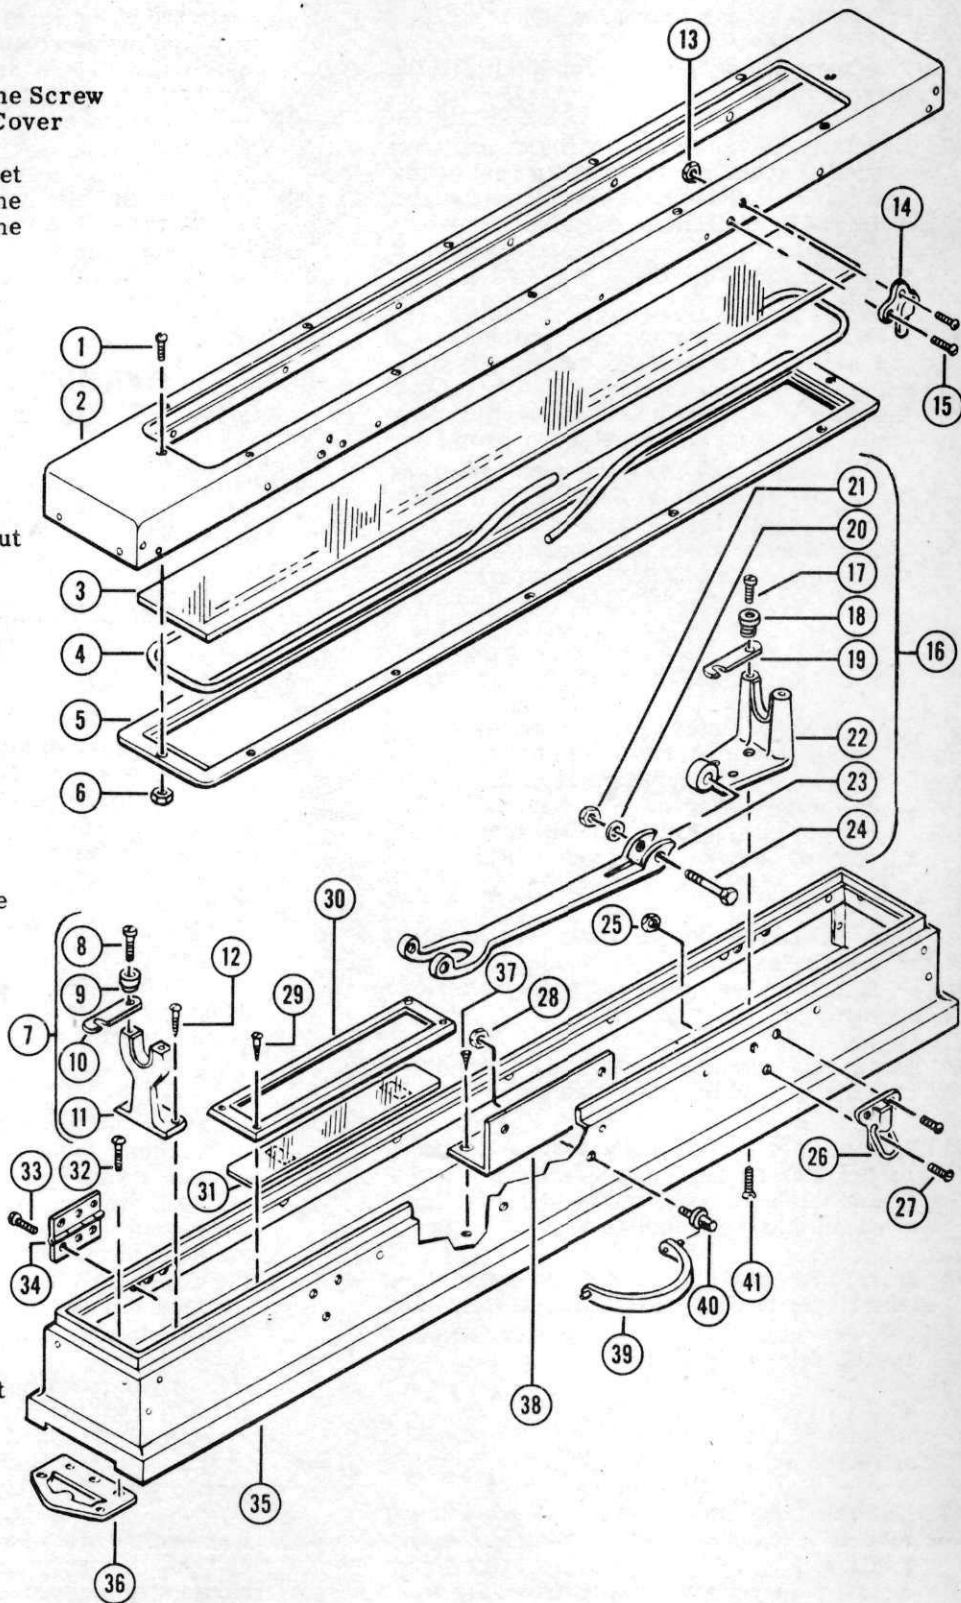

Figure 21
50. To remove the gimbal arm and support assembly, unscrew the three lower barometer support screws from the bottom of the case. Lift the assembly out of the case. See the exploded view, Fig. 21.
51. Remove the latch knob screws along with the latch knobs from the lower barometer support. The lower support latch can now be removed from the lower barometer support. Unscrew the latch knob from each latch knob screw. See the exploded view, Fig. 21.
52. Disassemble the gimbal arm from the lower barometer support by removing the gimbal arm hinge screw, the hinge screw nut and the lock washer. Use the hinge screw nut wrench (Tool No. 6) and place the head of the hinge screw in a vise. See the exploded view, Fig. 21, for parts and the "Special Service Tool List" in Section VIII for details of the special tool used here.
53. Remove the two upper barometer support screws from the base of the upper barometer support. Lift the upper barometer support assembly out of the case. See the exploded view, Fig. 21.
54. Remove the latch knobs, latch knob screws and the upper support latch from the upper barometer support, in a manner similar to that outlined in Operation 51 for the lower support. See the exploded view, Fig. 21.
55. To remove the cover glass from inside the barometer case cover, remove the twelve cover glass frame nuts and screws. Use the cover glass frame and fastener nut wrench, Tool No. 7. Then lift the cover glass frame, the cover glass gasket and the cover glass clear of the cover. See the exploded view, Fig. 21, and refer to the "Special Service Tool List" in Section VIII for details of the special tool used here.
56. Remove the top three hinge retaining screws from each of the three case hinges. The barometer case cover will then come free of barometer case (bottom half). Remove the remaining hinge retaining screws from each hinge and disassemble the hinges from the case. See the exploded view, Fig. 21.
57. Remove the two upper fasteners from the barometer case cover and the two lower fasteners from the barometer case (bottom half) in the following manner: Remove the fastener screw, which has a nut assembled upon it, from each fastener. Then remove the two remaining fastener screws from each fastener. The fasteners will now come free from the cover and case (bottom half). Use the cover glass frame and fastener nut wrench (Tool No. 7) to remove the fastener screw nuts. See the exploded view, Fig. 21, and the "Special Service Tool List" for details of the special tool used here.
58. Remove the case handle by unscrewing the two handle pivot post nuts from the two handle pivot posts. Use the pivot post nut wrench, Tool No. 8. Remove the case handle and its pivot posts from the case. Slip the handle pivot posts off each end of the handle. See the exploded view, Fig. 21, and the "Special Service Tool List" in Section VIII for details of the special tool used here.
59. Remove the three handle support bracket screws from the base of the handle support bracket. Lift the bracket out of the barometer case (bottom half). See the exploded view, Fig. 21.
60. Remove the three wall bracket screws from each of the two case wall brackets. Then remove the two case wall brackets from the bottom of the case. Suitably mark the brackets, upper and lower, for reassembly purposes. See the exploded view, Fig. 21.
61. To remove the reflector glass, unscrew the four reflector holder screws. Then lift the reflector holder and the reflector glass out of the case. See the exploded view, Fig. 21.